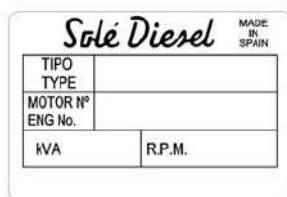
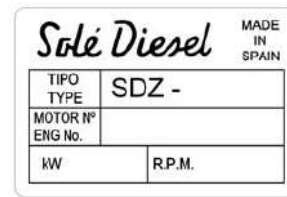

Fig. 1.1a
Fig. 1.1b
- Check the plaque Fig. 1.1a for genset and the Fig. 1.1b for propulsion engine.